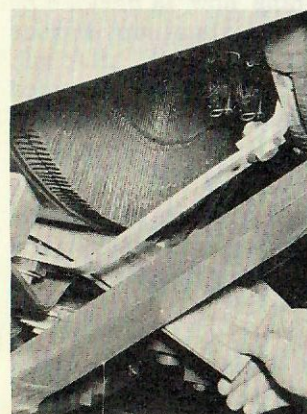

FIG. 96-1
4. Insert cardboard or similar material in the air space between the armature and field poles to prevent the armature from dropping when the generator spider flange is disengaged from the crankshaft flange, Fig. 96-1.